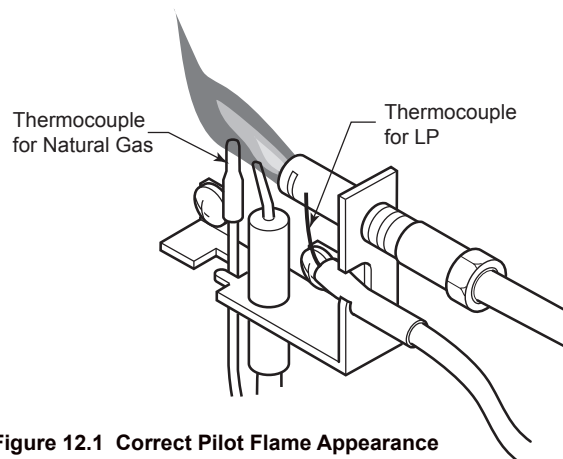

Figure 12.1 Correct Pilot Flame Appearance
- Inspect pilot flame pattern and strength. See Figure 12.1 and 12.2 for proper pilot flame pattern. Clean or replace orifice spud as necessary.